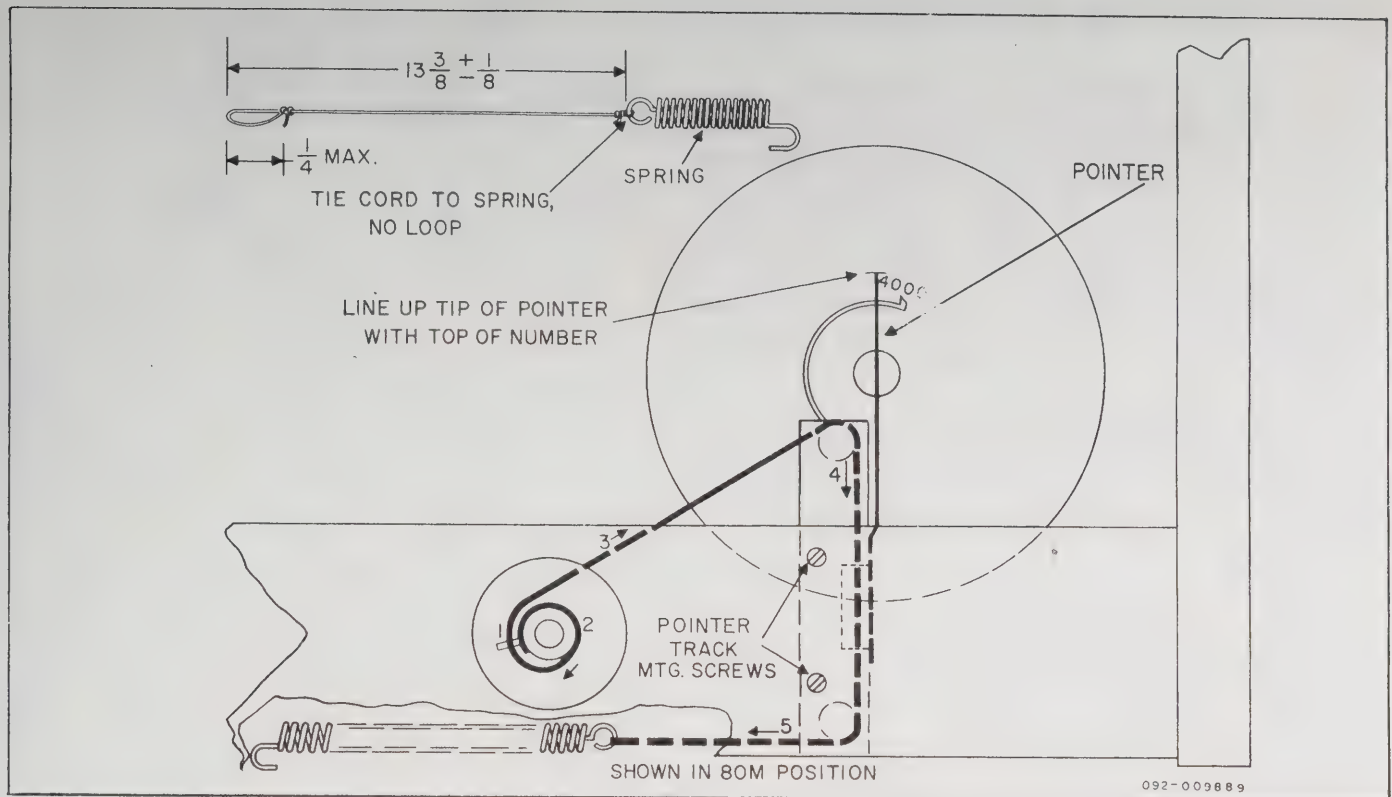

Figure 15. Dial Cord Restraining.
3. Make up dial cord as shown in figure 15.
5. Place the loop at the end of the dial cord over the pin (1) on the drum. Following the numerical sequence and
arrows as shown in figure 15, string the dial cord and anchor the spring in the chassis hole provided. Select the spring in the chassis hole providing the required tension.